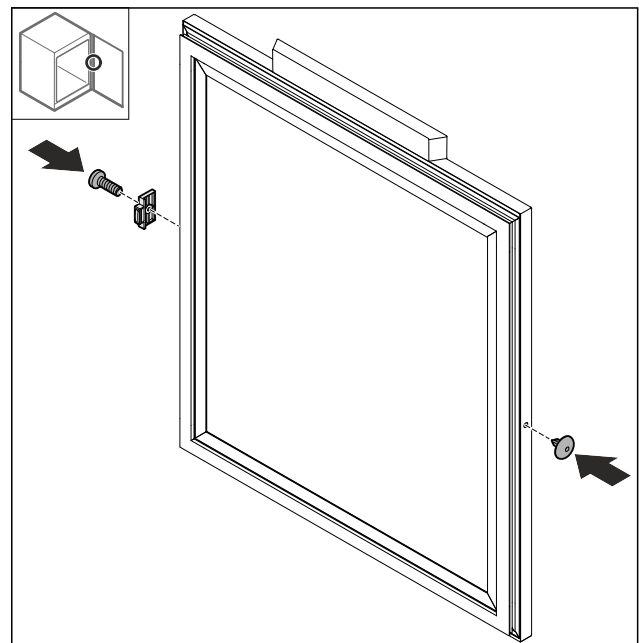

Fig. 46
- ▶ Mount the door stopper Fig. 46 (1) turned by 180° on the opposite side.
- ▶ Insert the cover Fig. 46 (2) on the opposite side.